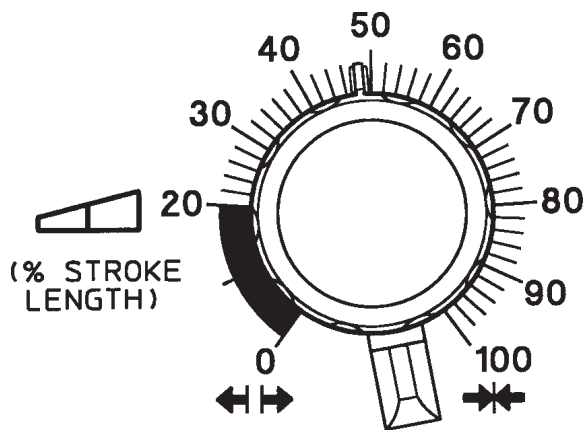

Figure 3.4
3.5 Stroke Length Adjustment (See Figure 3.4)